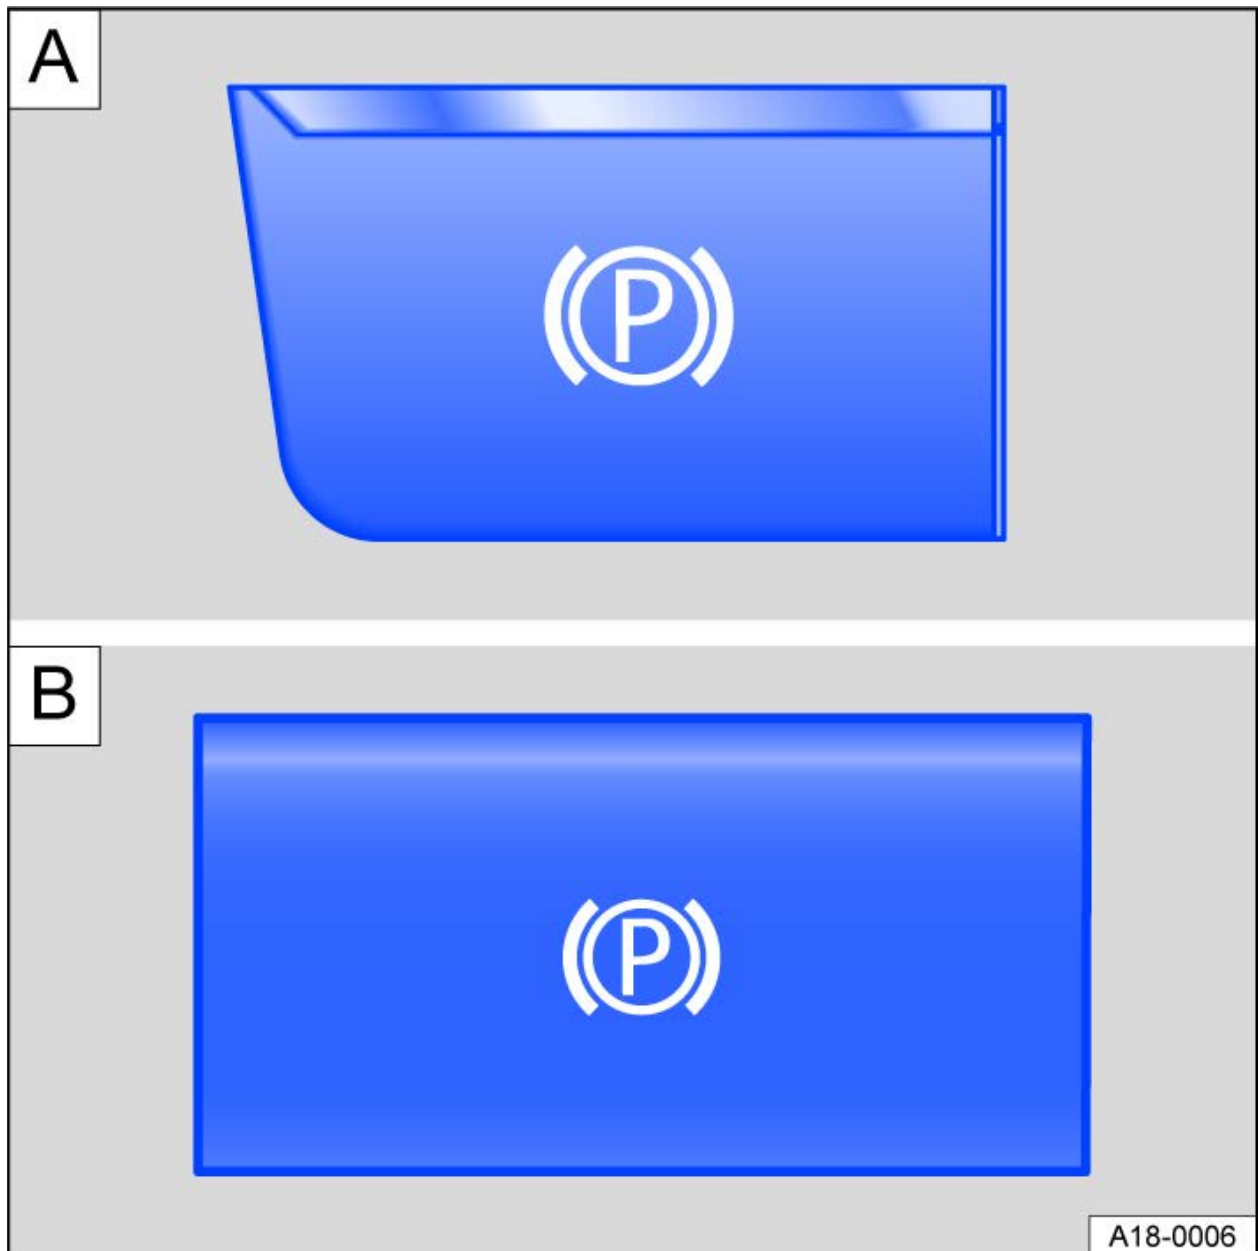

Fig. 1 In the center console: Button for the electronic parking brake for
- If the indicator light in the → *fig. 1* button and the red P indicator light in the instrument cluster light up, the electronic parking brake is activated.
- The indicator light in the → *fig. 1* button and the red (P) indicator light in the instrument cluster will turn off.